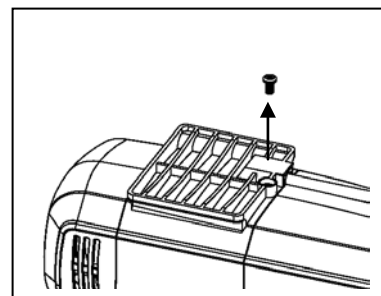

Fig. 11
5. Remove the locking screw, which is located on the bottom of the pump. Fig. 11